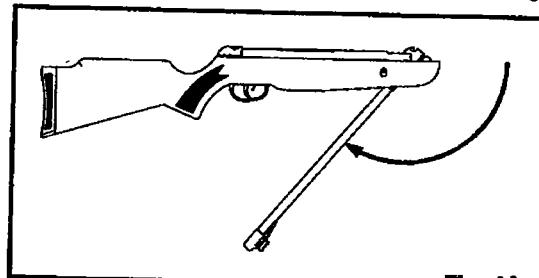

Fig. 4A -
- Pull the barrel downward until it stops (Fig. 4A). Do not pull past this point and do not use excessive force or speed